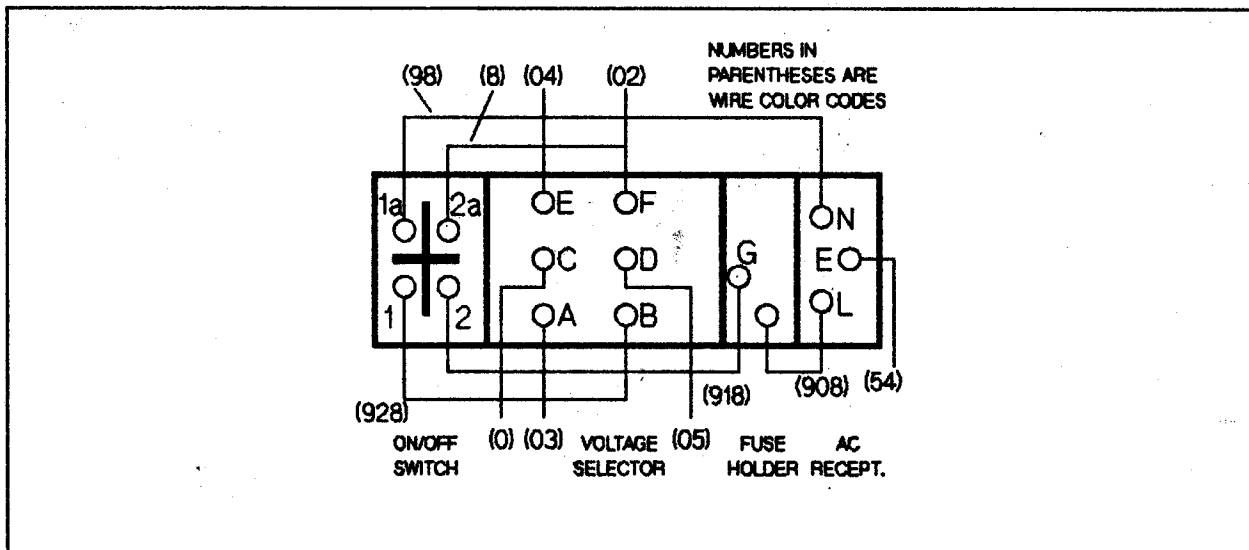

Figure 6-45. Power Module Wiring
- e. Connect the five primary cables the the ac power module. See Figure 6-45.